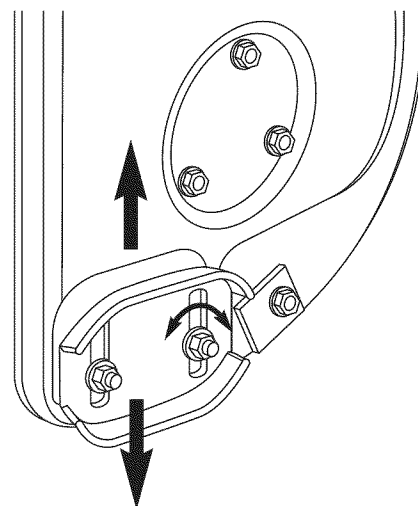

Figure 14
1. Loosening the flange lock nuts and carriage bolts. Move skid shoes to desired position. (see Fig. 14)